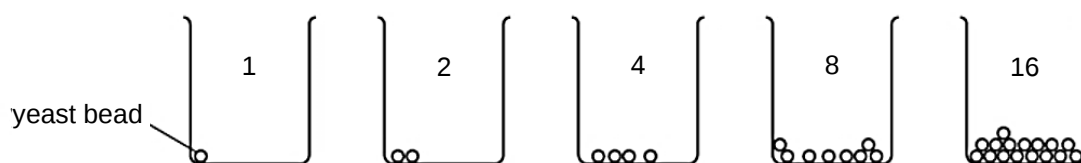

Fig. 1.2
- 11 Put 1, 2, 4, 8 or 16 beads into each of the appropriately labelled beakers, as shown in Fig. 1.2.